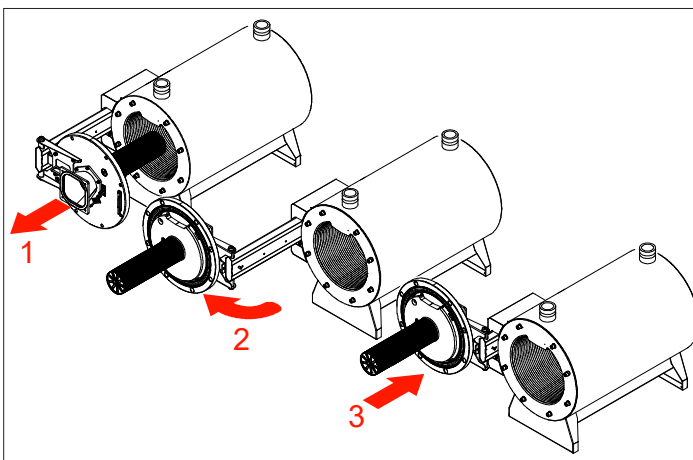

Figure 64 - 1500 - 2000 Model Heat Exchanger Detail - Sliding Out the Combustion Assembly
- For 1500 - 2000 Models: First, remove the five (5) screws attaching the cabinet post to the left side of the VWH cabinet assembly. Then remove the post. Then remove the three (3) screws attaching the air intake assembly. The heat exchanger features a hinged sliding device to ease service. First remove the pin located to the left of the door. This locks the hinge in place. After the pin is removed the door will swing at the hinge, providing better access to the inside of the heat exchanger. **BE CAREFUL NOT TO DAMAGE THE COMBUSTION ASSEMBLY, WHICH IS MOUNTED TO THE DOOR, WHEN OPENING AT THE HINGE.** After the pin is removed: (1) Lift the air intake pipe. (2) Spin air intake pipe while sliding the combustion assembly out. (3) Swing the assembly open to allow access to the combustion chamber. (4) Slide the assembly back toward the heat exchanger and use the removed pin to secure in the open position while performing maintenance. See Figure 64.